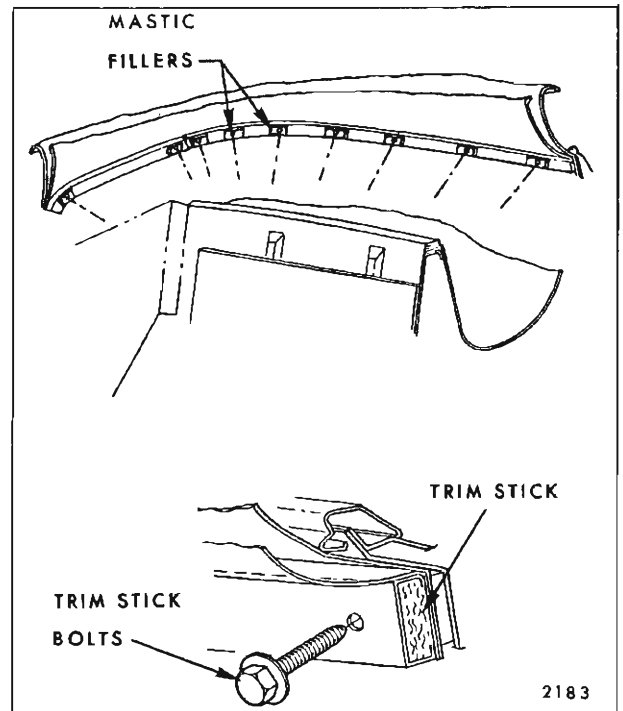

Fig. 13-20—Checking Trim Stick Fillers - "F & Z" Styles
4. On "F" and "Z" styles, inspect and, if necessary, install mastic type fillers around holes of folding top compartment rear panel for proper sealing of bolts (Fig. 13-20).